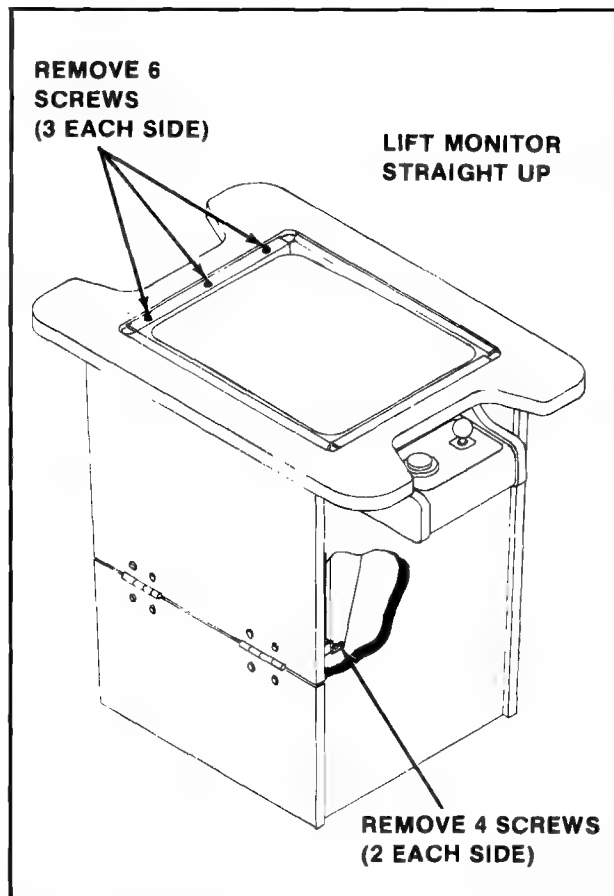

Figure 2-18 Removing the Monitor - Cocktail
2.7.3 COCKTAIL TABLE MODEL: (See Figure 2-18)
- ☐ Remove the screws holding the T.V. monitor chassis to the "L" by the door hinge(s). See Figure 2-18.
- ☐ Remove the screws which secure the T.V. monitor mounting brackets to the edges of the slot cut in the table top. See Figure 2-18.